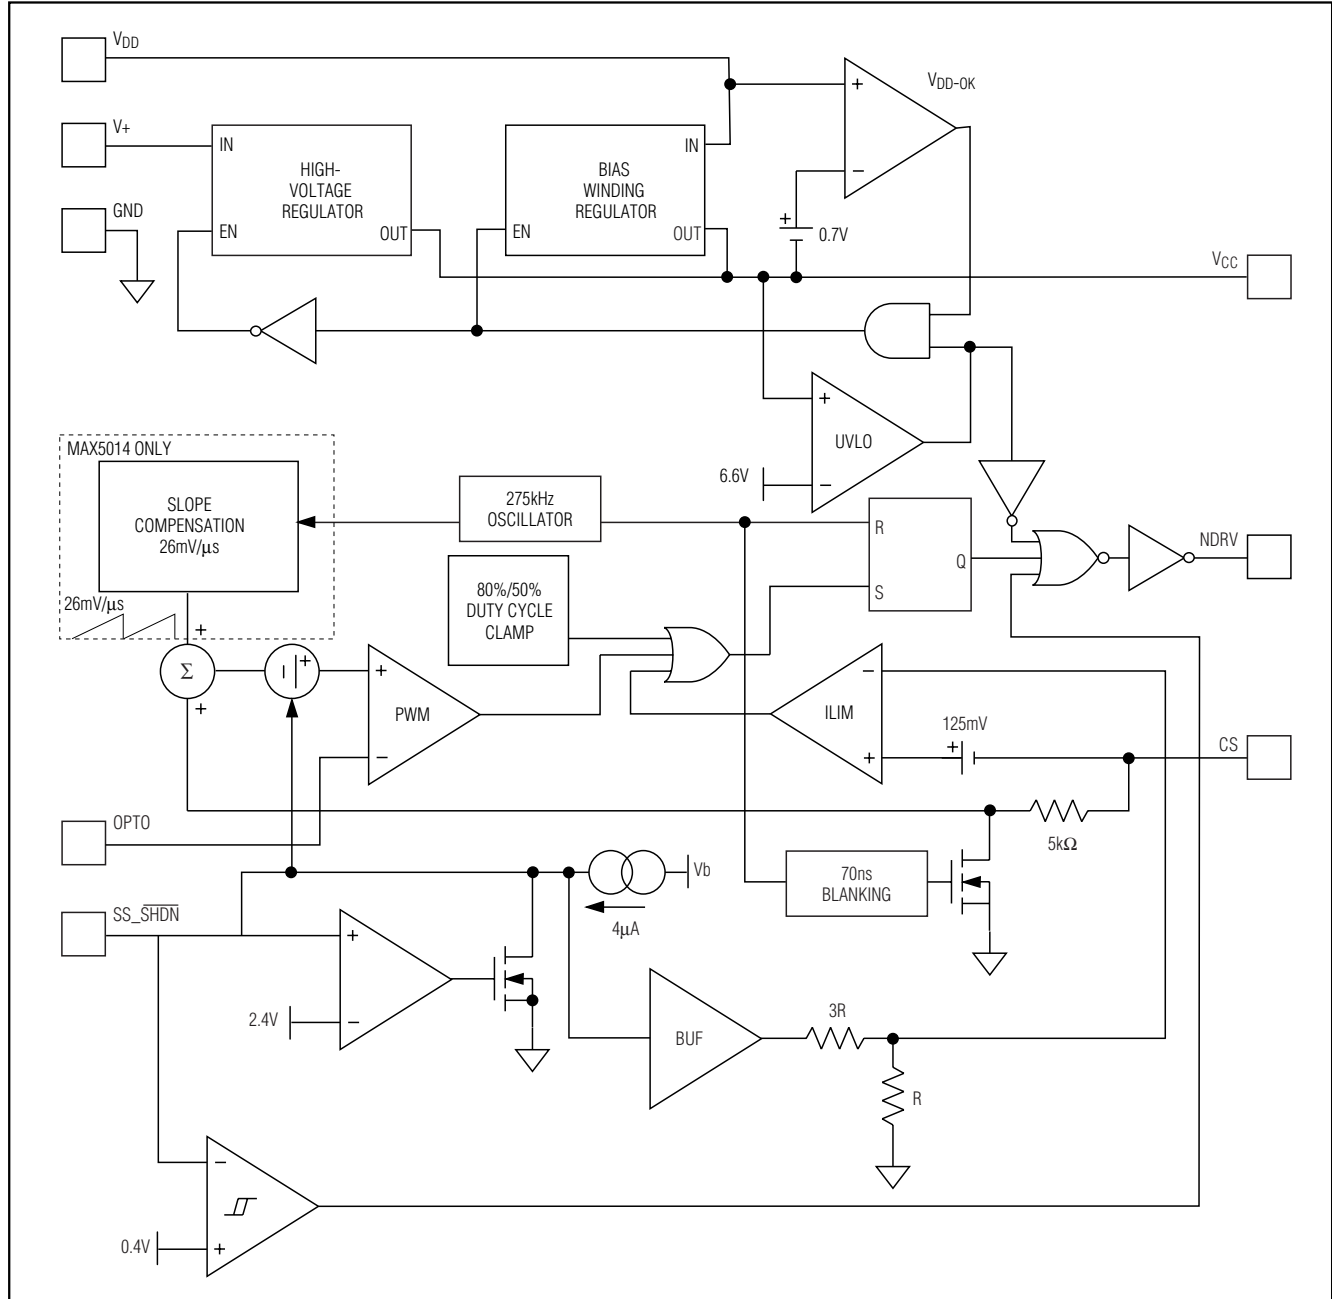
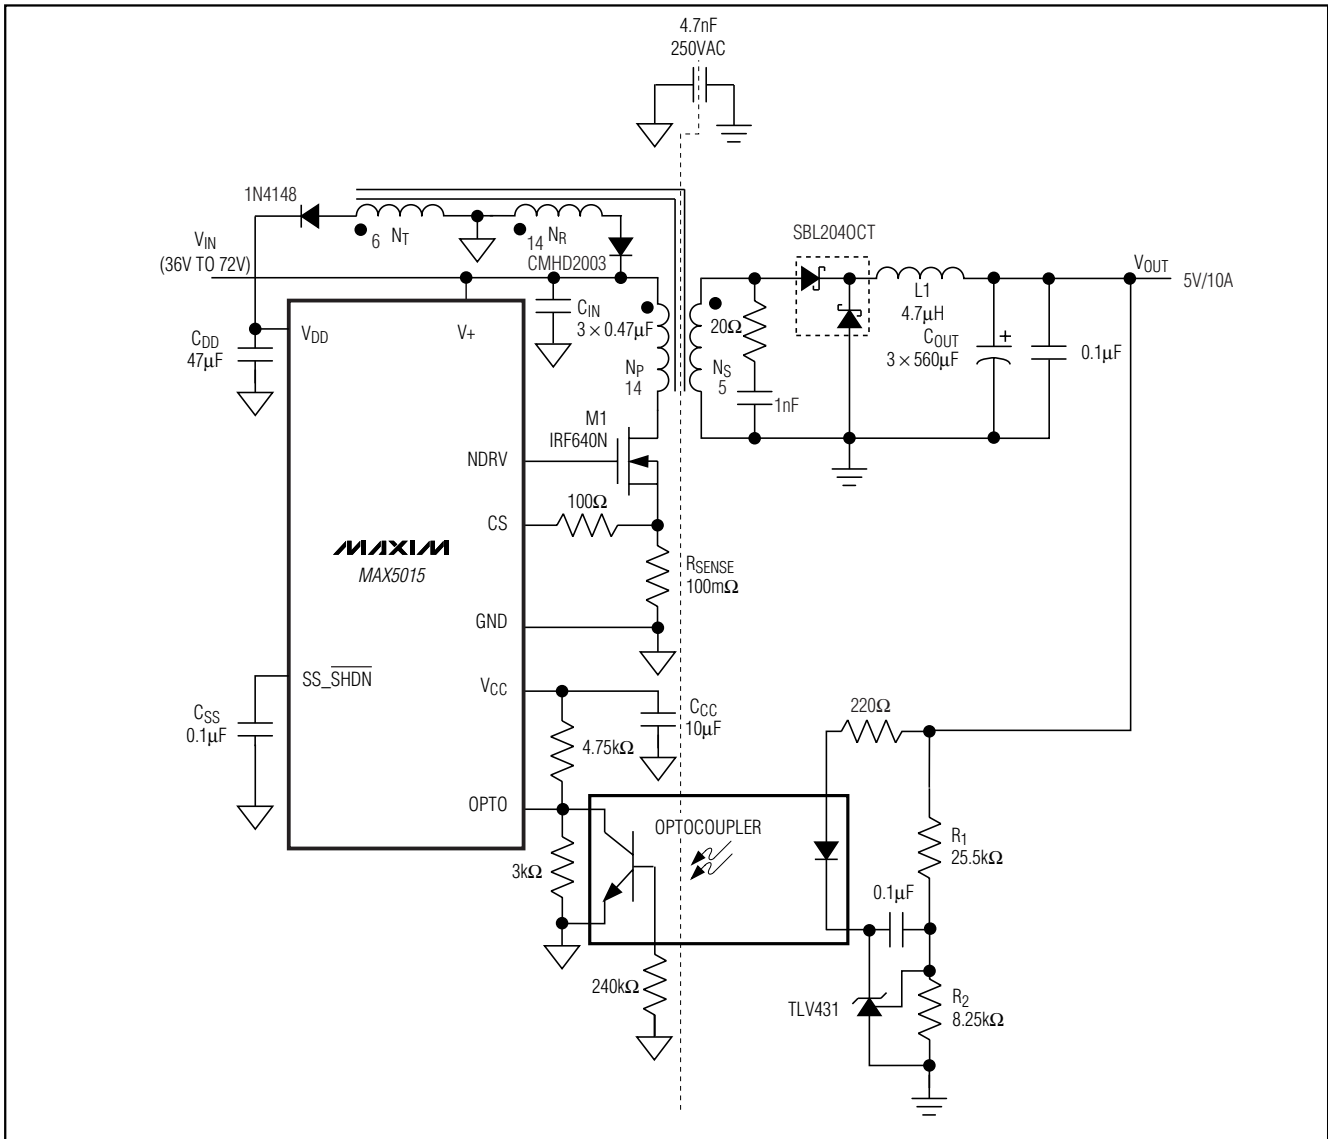
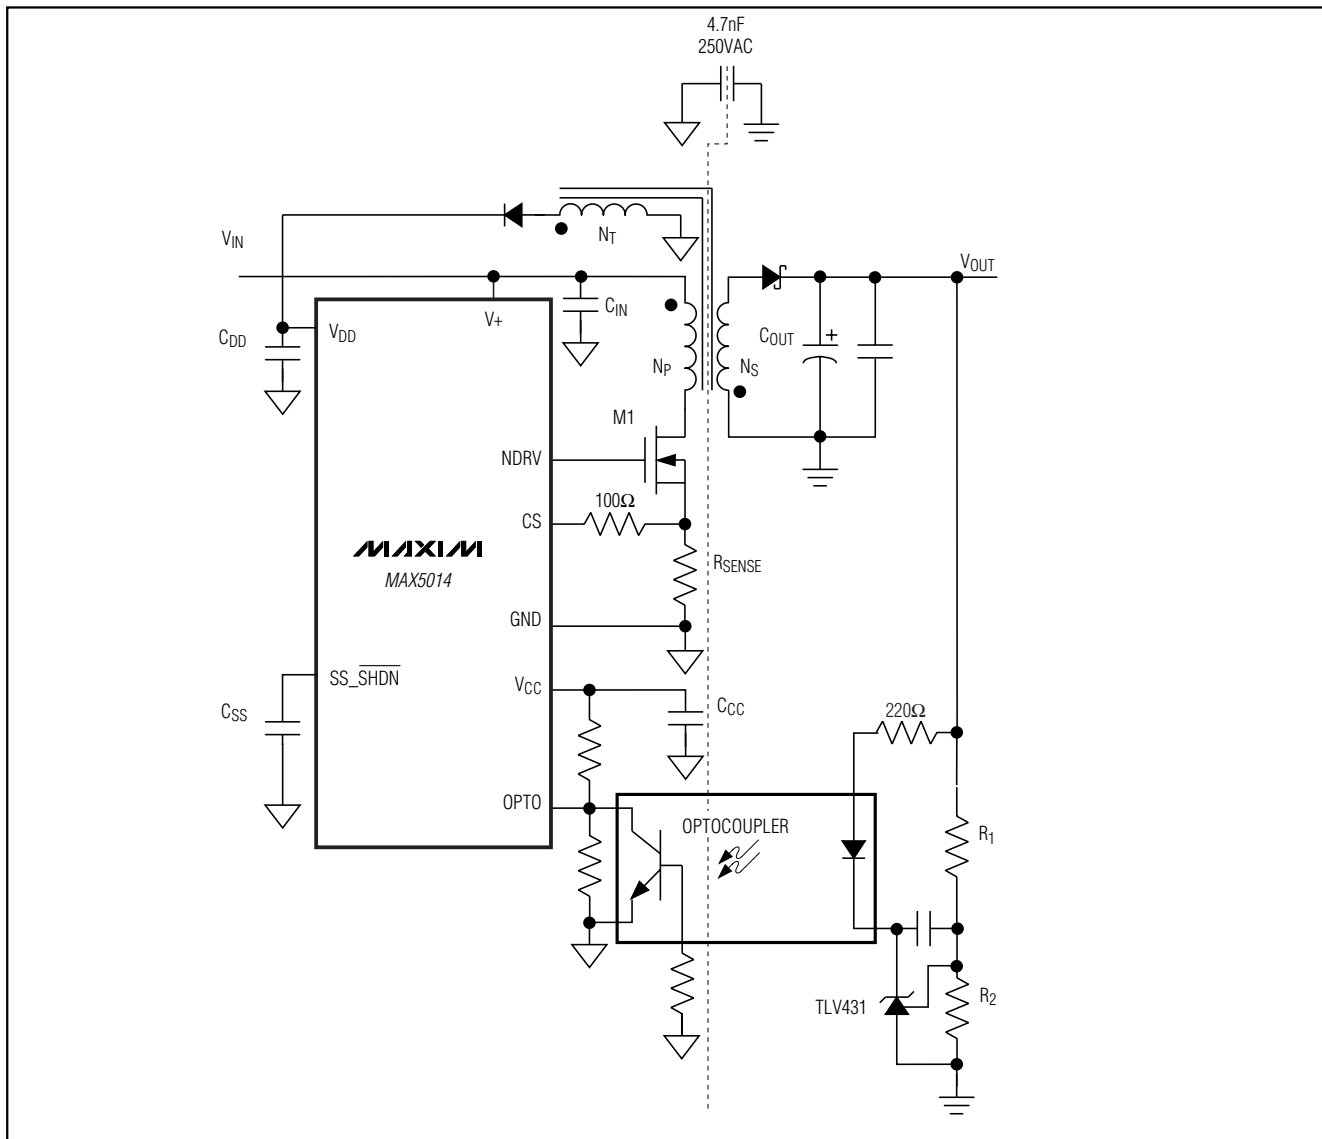

Figure 1. Functional Diagram
Figure 2. Forward Converter
Figure 3. Flyback Converter
Use the MAX5014/MAX5015 PWM current-mode controllers to design flyback- or forward-mode power supplies. Current-mode operation simplifies control-loop design while enhancing loop stability. An internal high-voltage startup regulator allows the device to connect directly to the input supply without an external startup resistor. Current from the internal regulator starts the controller. Once the tertiary winding voltage is established the internal regulator is switched off and bias current for running the IC is derived from the tertiary winding. The internal oscillator is set to 275kHz and trimmed to ±10%. This permits the use of small magnetic components to minimize board space. Both the MAX5014 and MAX5015 can be used in power supplies providing multiple output voltages. A functional diagram of the IC is shown in Figure 1. Typical applications circuits for forward and flyback topologies are shown in Figure 2 and Figure 3, respectively.
Isolated voltage feedback is achieved by using an optocoupler and a shunt regulator as shown in Figure 2. The output voltage set point accuracy is a function of the accuracy of the shunt regulator and feedback resistor-divider tolerance.
where  $C_{\text{SS}}$  is the soft-start capacitor as shown in Figure 2.
The current-sense (CS) comparator and its associated logic limit the peak current through the MOSFET. Current is sensed at CS as a voltage across a sense resistor between the source of the MOSFET and GND. To reduce switching noise, connect CS to the external MOSFET source through a 100 $\Omega$  resistor or an RC low-pass filter (Figures 2, 3). Select the current-sense resistor,  $R_{\text{SENSE}}$  according to the following equation:
The following is a general procedure for designing a forward converter (Figure 2) using the MAX5015.
The circuit in Figure 2 was designed as follows:
where  $V_{REF}$  is the reference voltage of the shunt regulator, and  $R_1$  and  $R_2$  are the resistors shown in Figures 2 and 3.